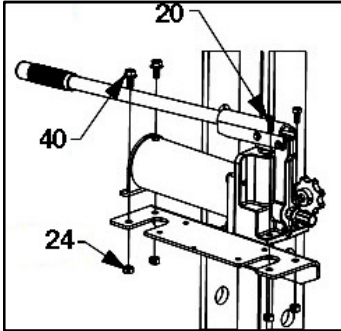

Fig. 24: Install manual pump
1. Attach the manual pump to the Pump Bracket [item #43] using (2) 3/8" X 1" Cap screws and (2) 3/8" X 3/4" Cap screws and (4) 3/8" Nuts as shown in Fig. 24.